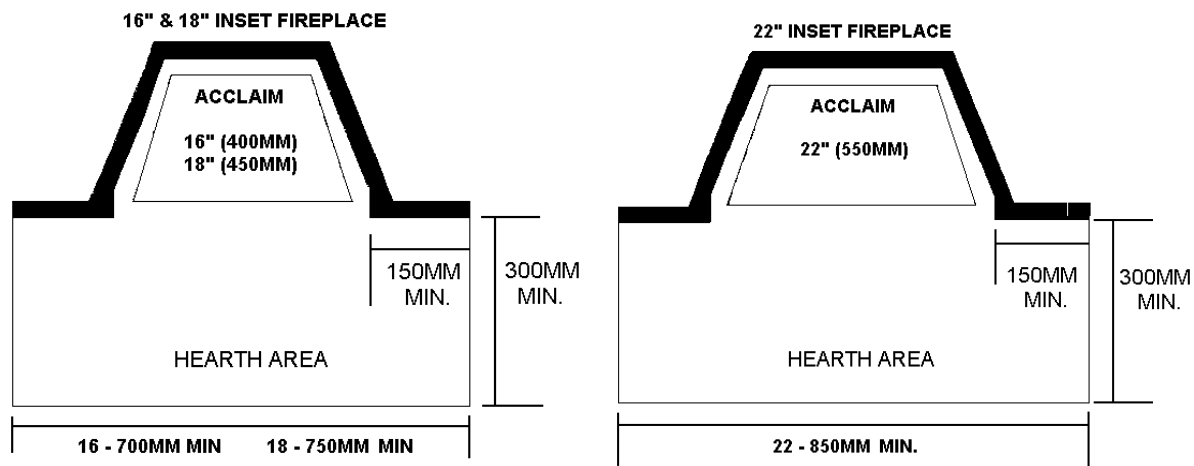

Figure 1.
- 1.4. **Fireplace.** The 16 model requires a nominal 16" (400mm) size fireback, which complies with BS 1251 together with a surround, which should be at least 40mm thick to give a total depth of at least 8¼" (210mm). It should be assembled in accordance with BS 8303, so that the height of the fire opening, measured from the hearth, should not exceed 22" (560mm). The 18 model requires a fireback of nominal 18" (450mm) size, with all other requirements as for the 16 model. The 22 model requires a fireplace opening to the dimensions in Figure 1 with a total depth of at least 210mm.
4. Metal flue boxes comply with BS 715:2005 and with the minimum dimensions shown in Figure 1. A 50mm air gap clearance must be maintained between the outside of the box and any combustible material. Manufacturer's installation instructions must be followed.
- 2.1. Check the appliance is the correct type for the fireplace into which it is to be installed. See Figure 1.